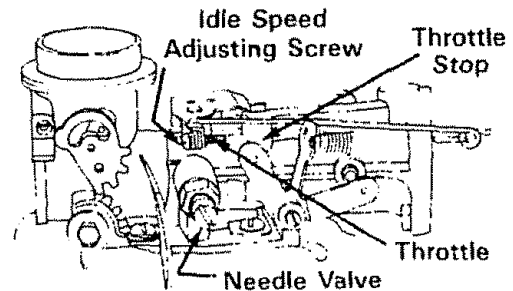

FIGURE 16.
1. Close needle valve (See figure 16) clockwise (↻) finger tight only. Forcing may cause damage. Then open 1-1/2 turns counterclockwise (↺).